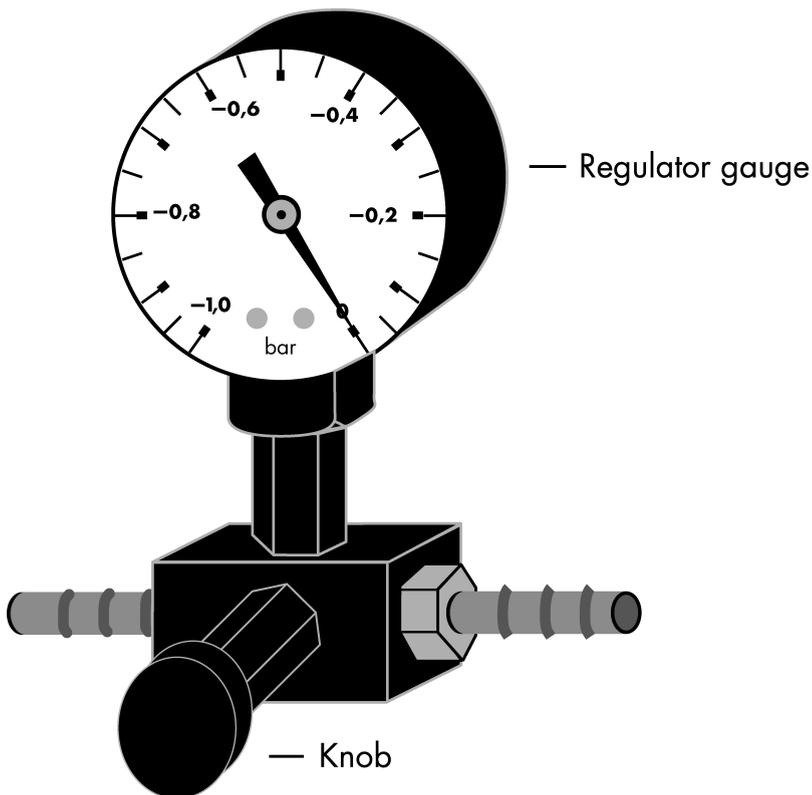

Figure 1. Schematic diagram of the Vacuum Regulator.
- The vacuum pressure is the pressure differential between the inside of the vacuum manifold and the atmosphere (standard atmospheric pressure 1013 millibar or 760 mm Hg) and can be measured using the QIAvac Connecting System or a vacuum regulator (see Figure 1). The vacuum protocol requires a vacuum pump capable of producing a vacuum or –800 to –900 mbar (e.g., QIAGEN, Vacuum Pump). Higher vacuum pressures must be avoided. Use of vacuum pressures lower than recommended may reduce DNA yield and purity and increase the frequency of clogged membranes.
Switch off the vacuum between steps to ensure that a consistent, even vacuum is applied during processing. For faster vacuum release, a vacuum regulator should be used (see Figure 1).